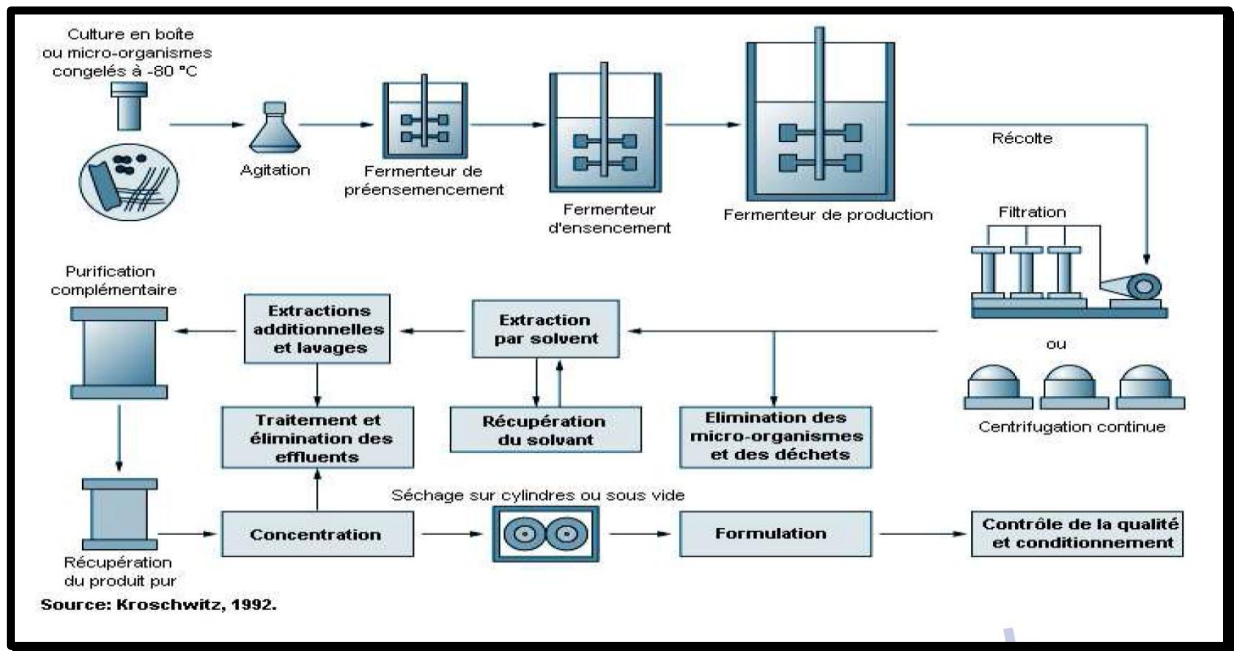

Figure.6 : General scaling diagram followed by product extraction and purification steps.
- Regardless of the application field of industrial microbiology, transitioning from laboratory Erlenmeyer flasks to industrial bioreactors remains a challenge (figure 6).